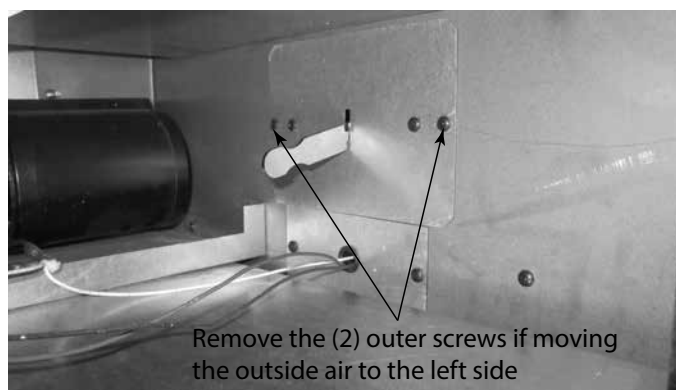

Figure 3.16 Outside air handle shown on right side
4. Remove the two (2) outer screws (Figure 3.16) to allow the outside air box to be removed.